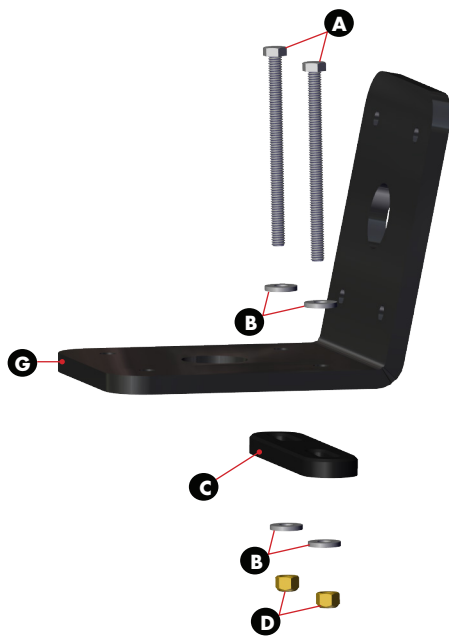

Figure 1
STEP 3 Install the front two **All-Thread Bolts A** through a **Washer B**, **Adapter Plate G**, **Boat Deck** and a **Backer plate C**. Then install a **Washer B** and **Lock Nut D** and tighten until snug using a **9/16"** Socket and **Wrench**. **FIG 1**